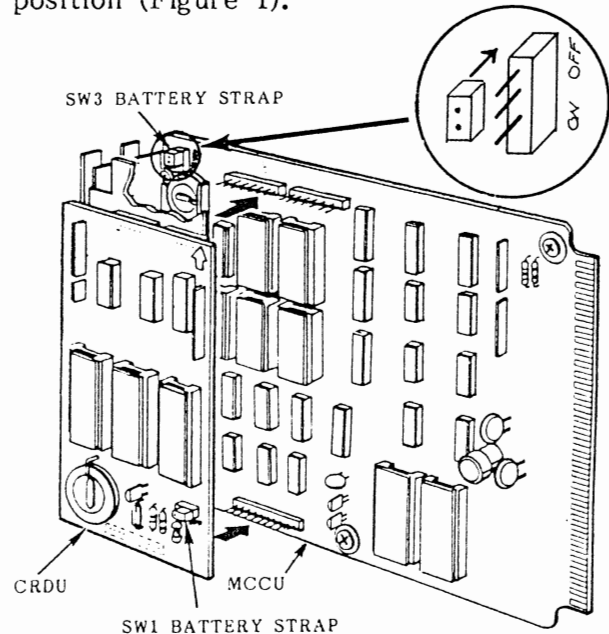

FIGURE 1
02.06 Whenever storing or shipping the MCCU and/or CRDU, always ensure that the battery strap is in the **OFF** position (Figure 1).